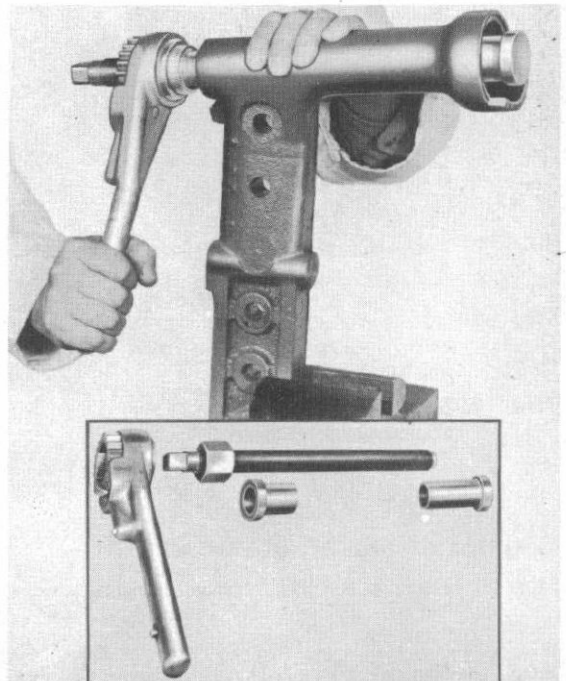

Fig. 8
NOTE: Removal from the tractor is optional. However, the removal and replacement of the bushings is made easier by securing the assembly in a vise as shown in Figure 8.
- Step 8—Install the bushings using a piloted tool as shown in Insert Figure 8.